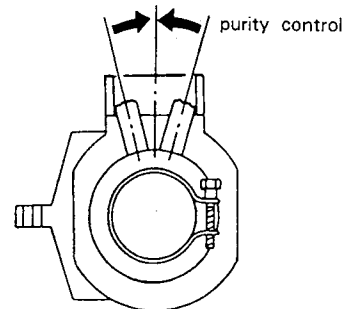

Fig. 3-1
3. Loosen the deflection yoke mounting screw, and set the purity control to the center as shown in Fig. 3-1.